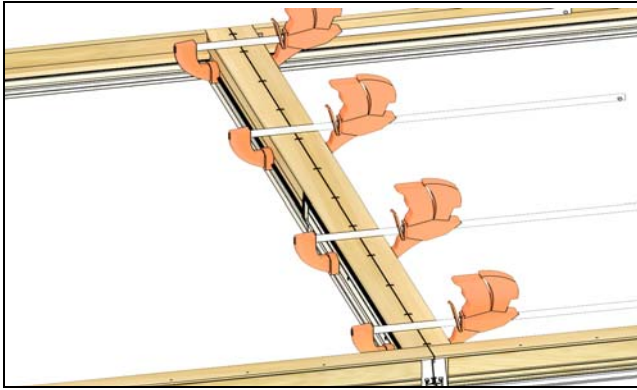

Figure 8
9. Continue mulling interior with 1/2" x 5/8" crown staples 2"(51) from each end and spaced every 3"-5" (76-127). See Figure 8.